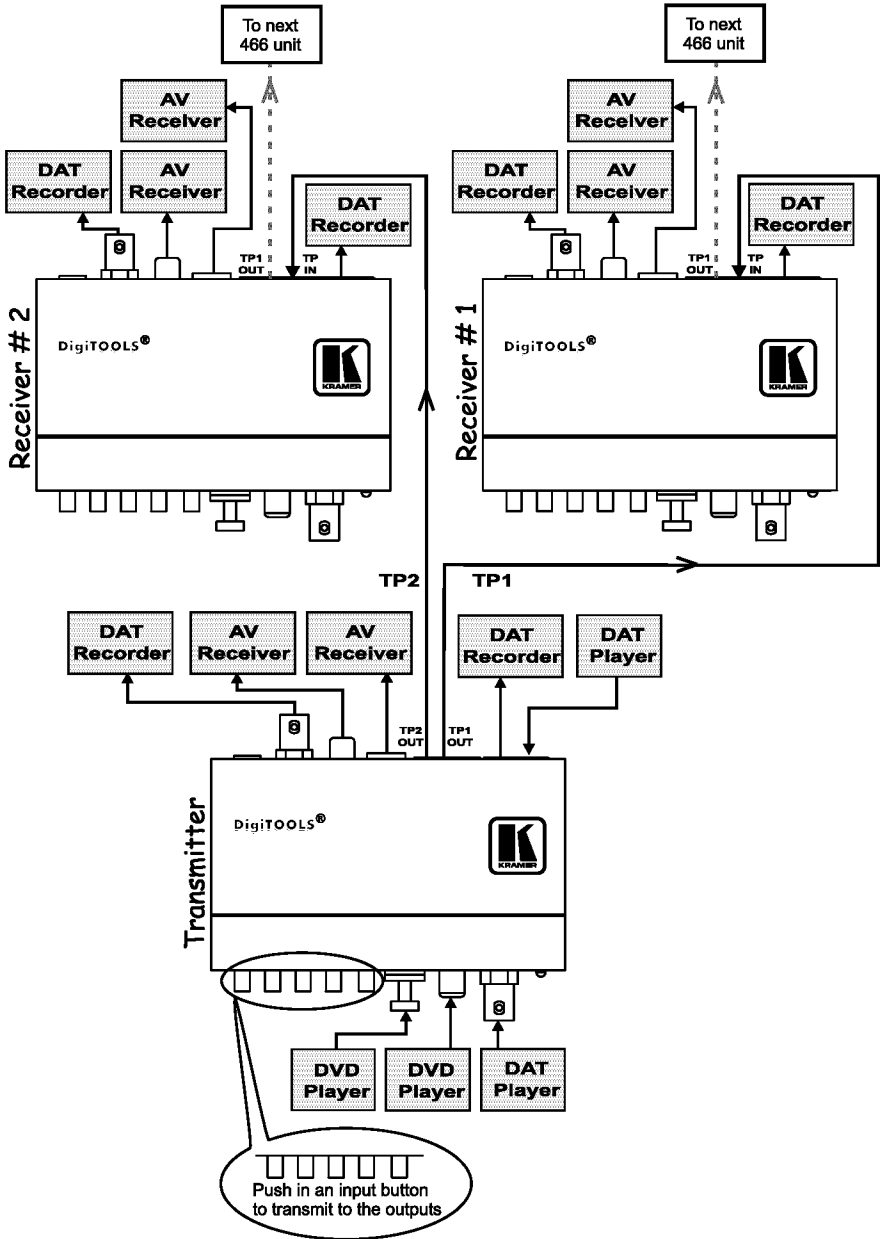

Figure 4: Extending the Range with the 466N Digital Audio Transcoder
² See *Figure 4*
To use several machines¹, as illustrated in *Figure 4*, do the following²:
1. Connect the first 466N unit (the Transmitter³ in *Figure 4*) as described in section 0.
2. Connect Receiver⁴ # 1 (in *Figure 4*):
3. Connect Receiver⁴ # 2 (in *Figure 4*):